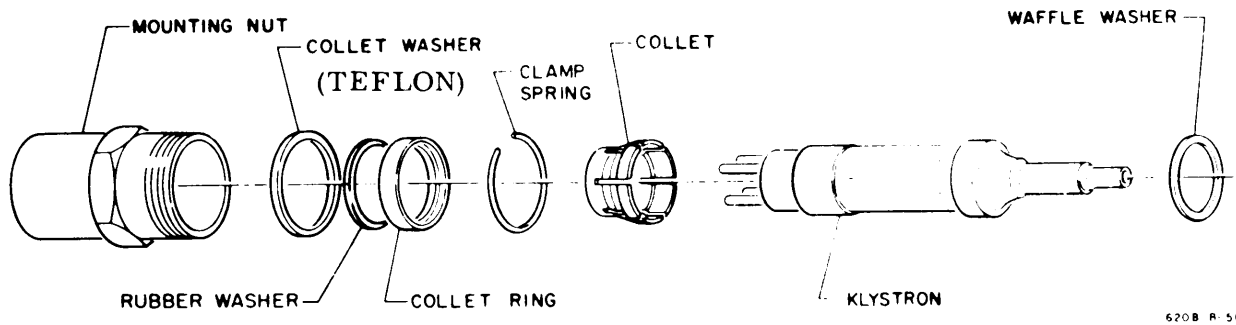

Figure 5-16. Exploded View of Klystron Mounting Parts (620B).
The klystron is located at the left side of the instrument just behind the front panel. Refer to Figure 5-16 and proceed as follows:
- a. Insert waffle washer in cavity (Figure 5-16). Use new washer if old washer is damaged.